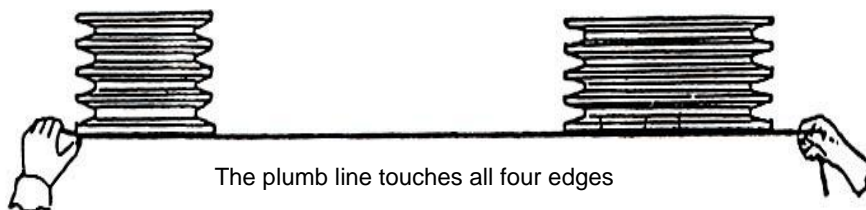

FIG 21.
C. Move the other pulley until all four edges touch the string. (Fig 21)